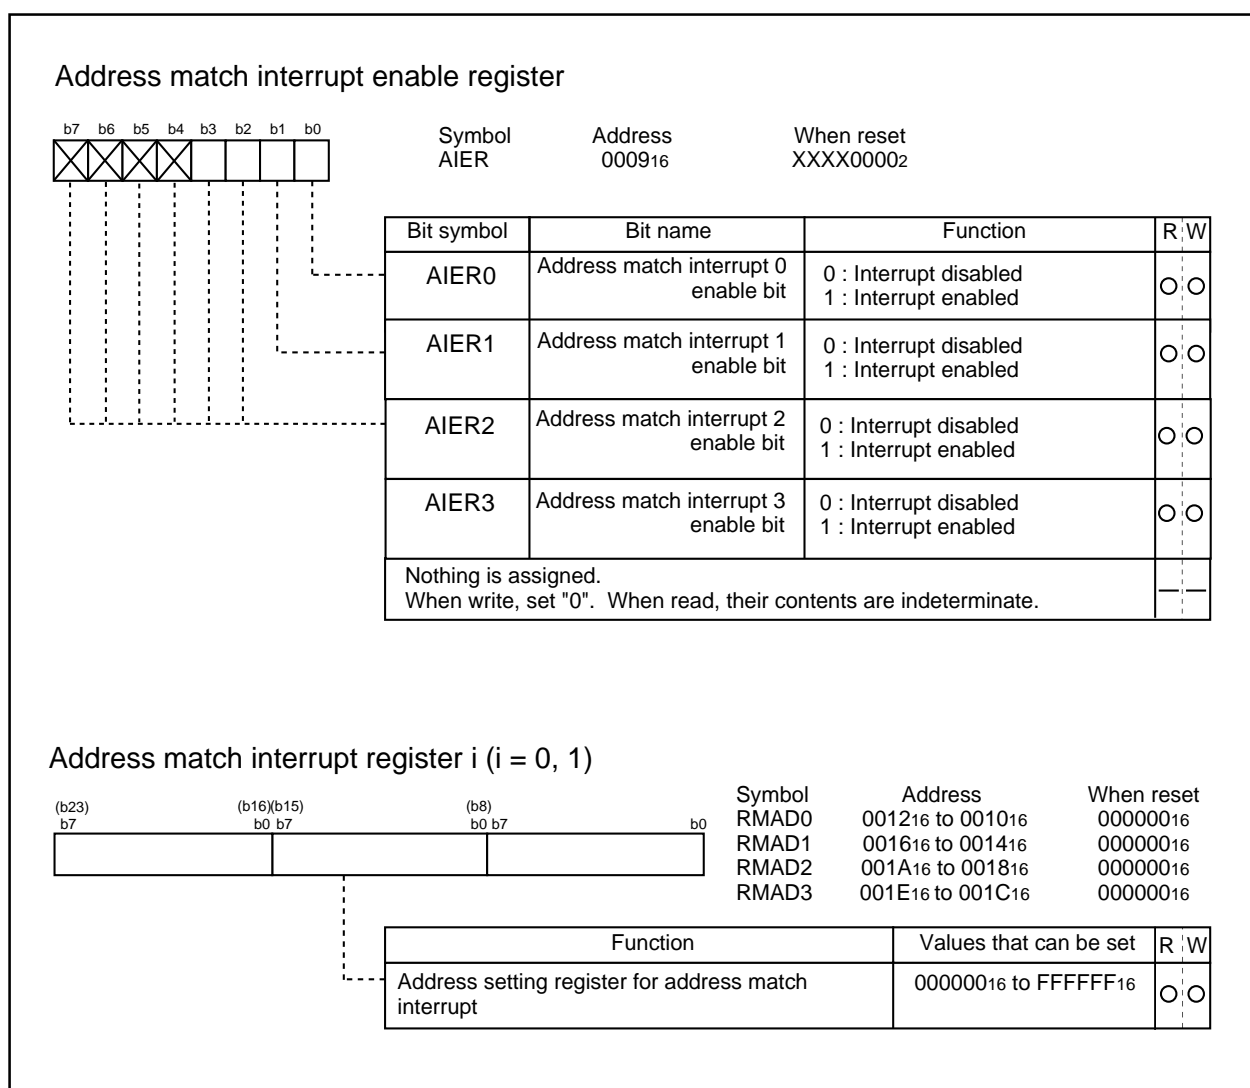

Figure 1.9.12. Address match interrupt-related registers
Figure 1.9.12 shows the address match interrupt-related registers.
- When the polarity of the INT0 to INT5 pins is changed, the interrupt request bit is sometimes set to "1". After changing the polarity, set the interrupt request bit to "0". Figure 1.9.12 shows the procedure for changing the  $\overline{\text{INT}}$  interrupt generate factor.